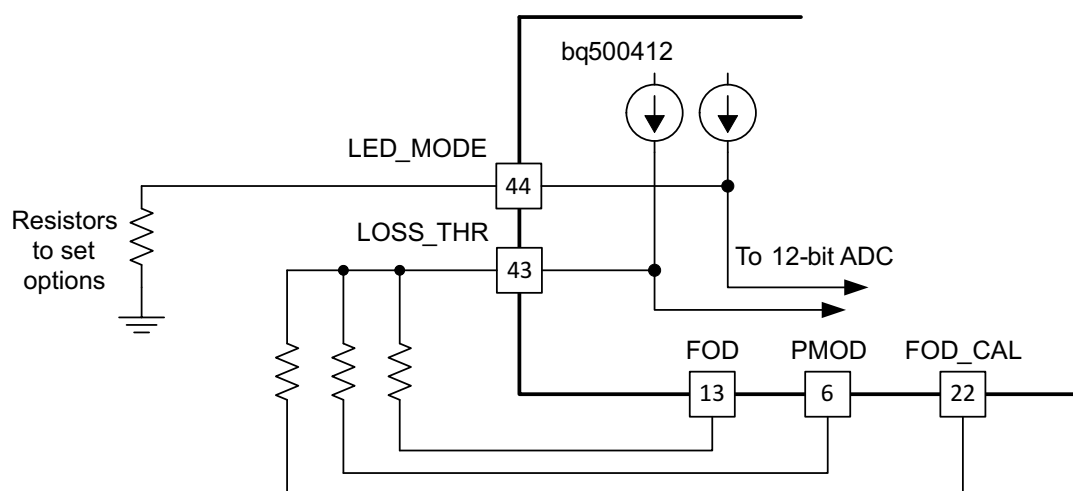

Figure 3. Option Select Pin Programming
The bq500412 can directly drive up to three (3) LED outputs (pin 7, pin 8 and pin 25) through a simple current limit resistor (typically 470 Ω), based on the mode selected. The current limit resistors can be individually adjusted to tune or match the brightness of the LEDs. Do not exceed the maximum output current rating of the device. The resistor in Figure 3 connected to pin 44 and GND selects the desired LED indication scheme in Table 1.